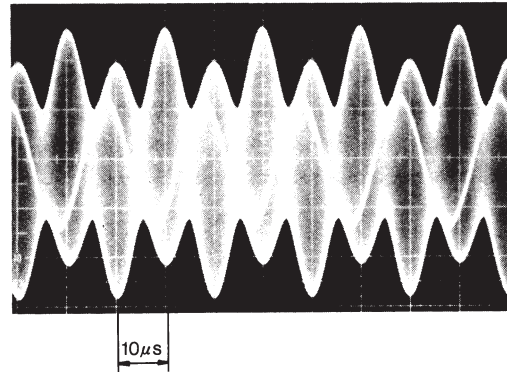
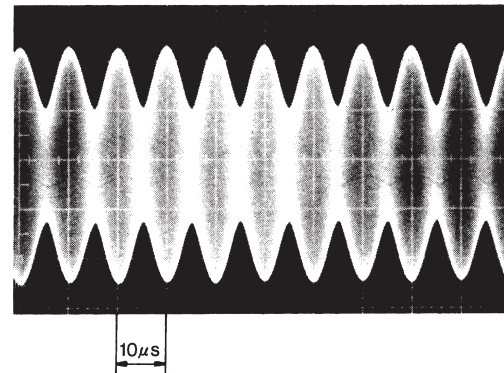

Fig. 4
Fig. 5
- ① Prepare the oscilloscope by setting the input coupled switching to AC with a horizontal sweep axis of  $10\ \mu\text{s}/\text{div}$  and a vertical axis of  $0.5\ \text{V}/\text{div}$ , and connecting CH1 to the PM terminal. At this time, the trigger source should be taken from INT CH1.
- ② A sine wave appears in CH1. The phase of this sine wave moves in accordance with the scale movement, allowing the envelope ripple to be observed. First rotate the VR-2 volume to set the sine wave amplitude to approximately  $2\ \text{V}_{\text{p-p}}$ . (This is called the gain adjustment.)
- ③ When the VR-1 volume is rotated completely to the right (clockwise) and the scale is moved, the waveform shown in Fig. 4 appears. At this point, adjust the VR-4 volume so that neighboring peaks are of the same height as shown in Fig. 5 (This is called the DC balance adjustment.) If the minimum PM signal amplitude falls to  $0.5\ \text{V}_{\text{p-p}}$  or less, the alarm function may operate.
- ④ When the VR-1 volume is rotated completely to the left (counter-clockwise) and the scale is moved, the waveform shown in Fig. 4 appears as in step ③ above. At this point, adjust the VR-5 volume so that neighboring peaks are of the same height as shown in Fig. 5. Repeat the adjustments in steps ③ and ④ alternately until the height of neighboring peaks are not disturbed by rotating the VR-1 volume.